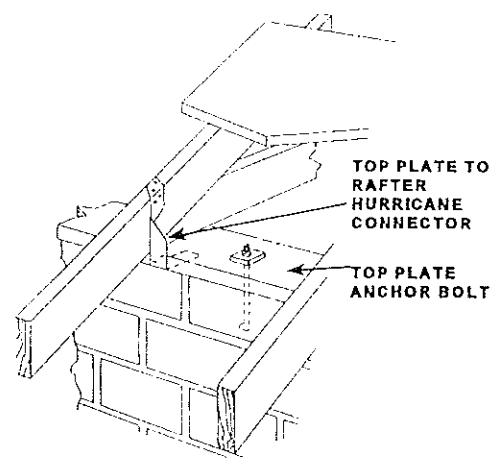

Figure 1. Connecting the top plate to the wall and the rafters to the top plate.
**Connecting a top plate to the ring (bond) beam - new construction.** The top plate is the wood that is connected to the top of the masonry wall to create an anchoring surface for the roof rafters. This wood serves as the anchor surface for the roof and it is critical that it be firmly connected to the concrete or block. This can be done with bolts, straps or connectors that are embedded in the concrete ring beam, as shown in Figures 1, 2 and 3. Connect the rafter to the top plate using specially designed connectors. Connecting the roof directly to the ring (bond) beam new construction. You can anchor the rafters directly to the bond beam by embedding metal straps into the concrete bond beam, and then attaching these straps directly to the rafters.